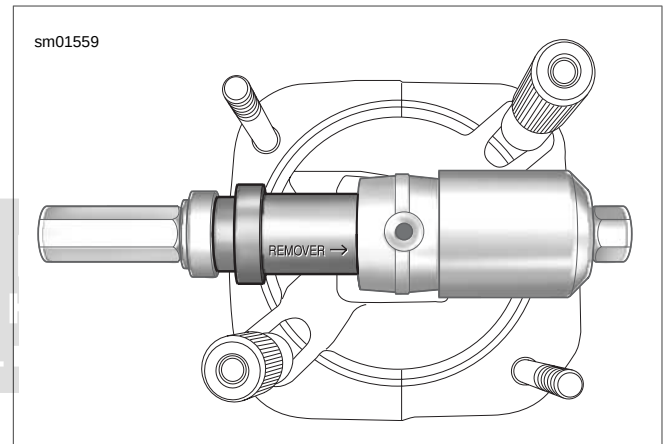

Figure 3-148. Remover Stackup. Use Remover Side Of Remover/Installer
- a. See Figure 3-148. Slide remover side of remover/installer onto bolt. The driver is stamped to ensure proper orientation.